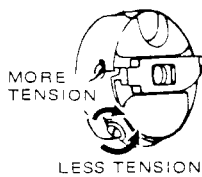

Fig. 31
- To regulate the tension on the bobbin thread, remove the bobbin case and turn the screw in the tension spring as instructed in Fig. 31.